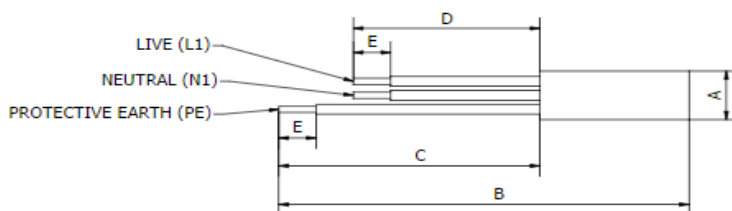
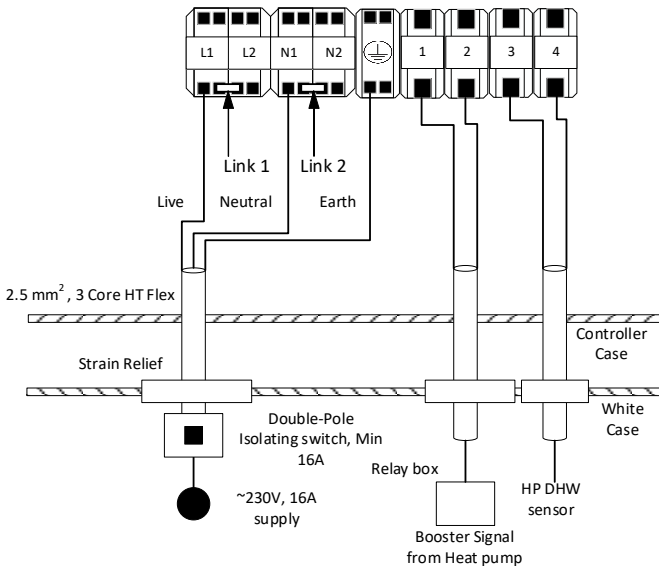

Figure 10: Wire length preparation diagram
Figure 12.2: Wiring Option 1 diagram – Thermino hp-SG Low Temperature Heat Pump
- The mains power cable to the Sunamp Controller should be a minimum of 2.5mm², 3 core H05 VV-F sheathed cable, to BS 6500. This cable must be prepared according to Figure 10 (below), where the Green/Yellow (Protective Earth) wire is 15 mm longer than the Brown (Live) and Blue (Neutral) wires.
- Prepare the wire according to (Figure 10) and wire the mains power cable in the following terminals (Figure 12.2):
Wire the 2 core PVC insulated cable provided (C2295) from the Samsung "MIM-E03AN" Booster heater terminal connectors "L" & "N" (please refer to Heat Pump manual), run the wire into the relay box (C2291) provided into "TRIGGER INPUT AC" terminals (please refer to relay box instruction sheet). Then wire another 2 core PVC insulated cable provided (C2295) from the relay box terminals "NO1" & "C1" to the Heat Battery, into the control box housing through the opening available. Secure the cables in Terminal T1 & T2 independently (Figure 12.2). Please note that the polarity of the wires is not important in this wiring setup. Please ensure to use the provided relay backbox (C2292) & 2 x Cable grommets (C2296) when running the wires into the relay box.
- Using the Samsung Tank sensor part supplied "CNS042" with the heat pump, remove the sensor end, by cutting off the copper cylinder and strip the wire as required. Add the connector end into the Samsung "MIM-E03AN" (please refer to Heat Pump manual), then run the wire into the Heat Battery via the Heat Battery case cabling grommets and then into the control box housing through the hole available. Secure the cables in Terminals T3 & T4 independently (Figure 12.2).
- Prepare if necessary, the mains power cable and wire in the following terminals (Figure 10):